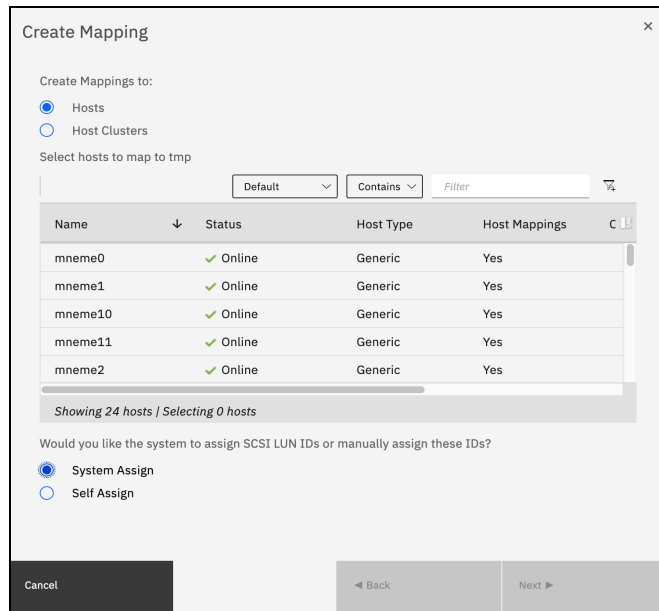

Figure 4-12 The Create Mapping page
h. Verify the volume, and then click **Map Volumes** (see Figure 4-12).